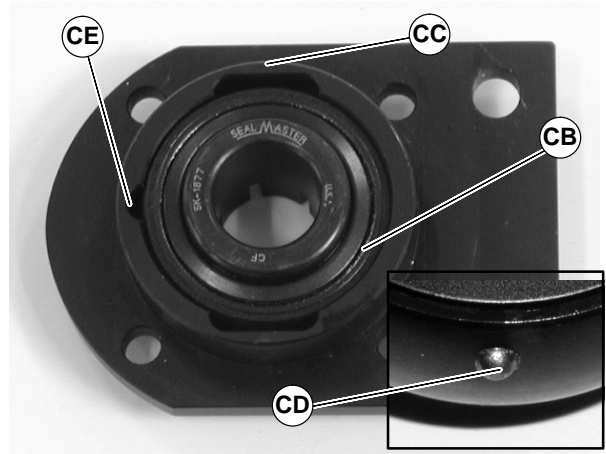

Figure 62
2. Insert bearing (CB of Figure 62) into housing slot (CC). Locate anti-rotation nub (CD) to align with slot (CE), and twist bearing into housing.